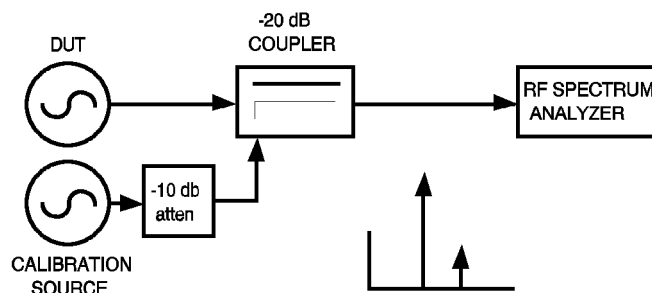

Figure 12-19 Measuring Relative Spur Level
- 3 Measure the carrier-to-single-sided-spur ratio and the spur offset at the input to the AM detector with an RF spectrum analyzer. See Figure 12-19. The spur should be adjusted such that it is between -30 and -60 dBc, with a carrier offset of 10 Hz to 20 MHz.